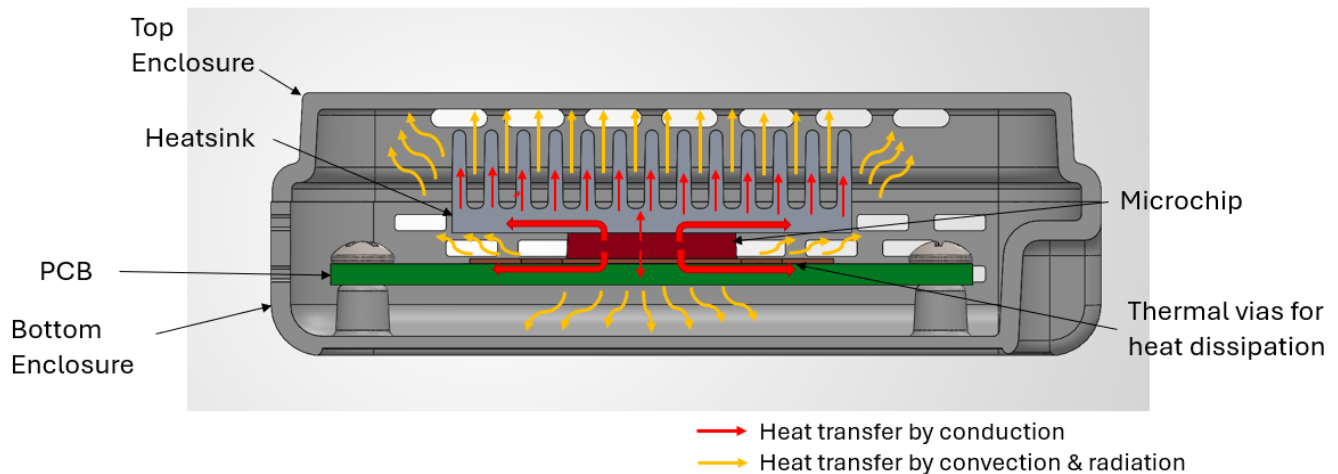

Figure 2: Heat flow diagram
- **Optimized Heatsink Geometry:** A custom-extruded aluminum fin array is pocketed directly over the chip's top face, establishing a low-resistance vertical conduction path (0.2 K/W) see **figure 2**.
- **Thermal Chimney Venting:** The PC-ABS plastic housing features an optimized alignment of slotted vents on both the lower chassis pan and upper lid to promote natural, buoyant fluid circulation see **figure 2**.